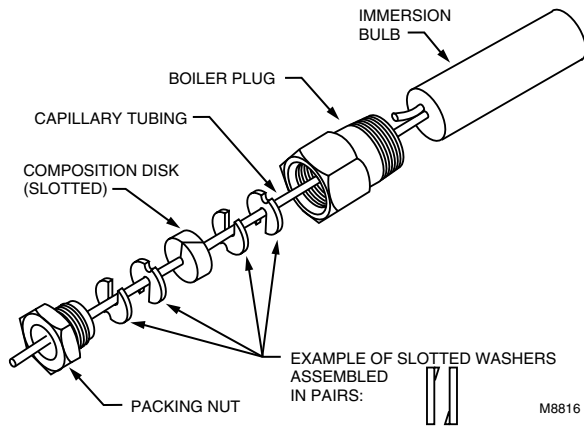

Fig. 3. 104484 Capillary compression fitting.
Using Capillary Compression Fitting (Fig. 3)
4. Place composition disk and four slotted brass washers on tubing in the order shown in Fig. 3. Turn brass washers so that slots are 180 degrees apart.